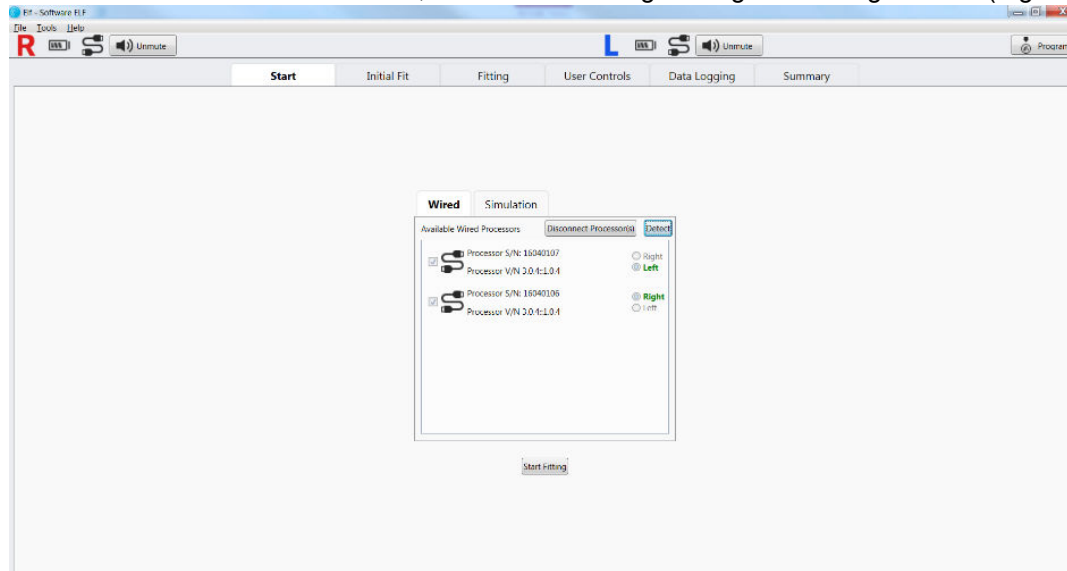

Figure 19: Detected Processors in Start screen
- a. Once the devices are detected, select "Start Fitting" to begin the fitting session (Figure 19).